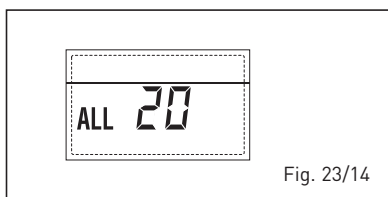

Fig. 23/14
– **ANOMALIA AVARIA SONDA IMPULSÃO PRIMEIRA ZONA MISTURADA “ALL 21” (fig. 23/15)**